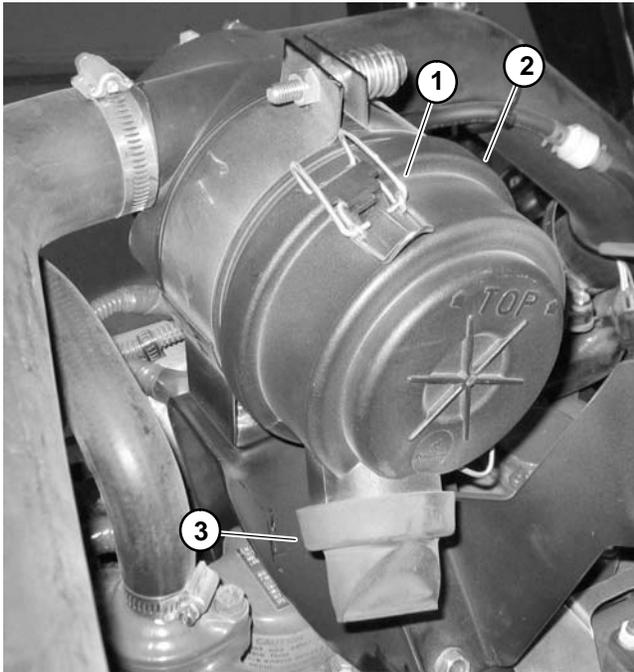

Figure 5
2. Check air cleaner body for damage that could cause possible air leaks. Make sure dust cup seals completely to the air cleaner body (Fig. 5).